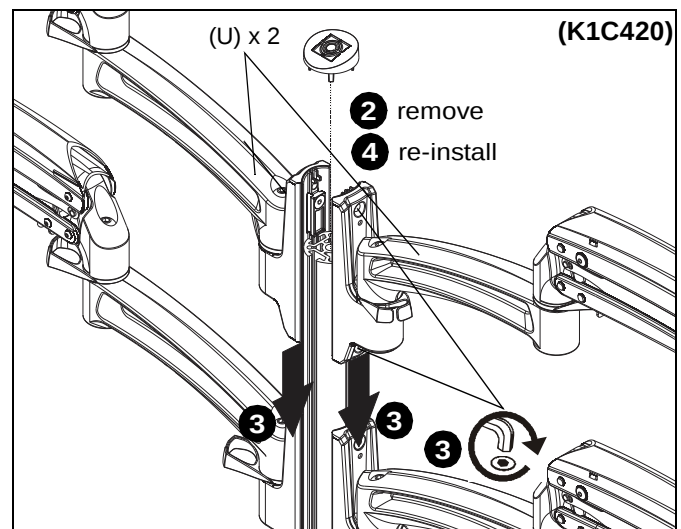

Figure 11
- Loosely install two #10-24 x 5/8" flat head cap screws (W) through holes on each K1C420 arm (U) and into two #10-24 square nuts (X). (See Figure 11)
- Slide arms (U) into column grooves at desired mounting height. Tighten two screws on base of each arm to secure K1C420 arms (U) to column. (See Figure 11)